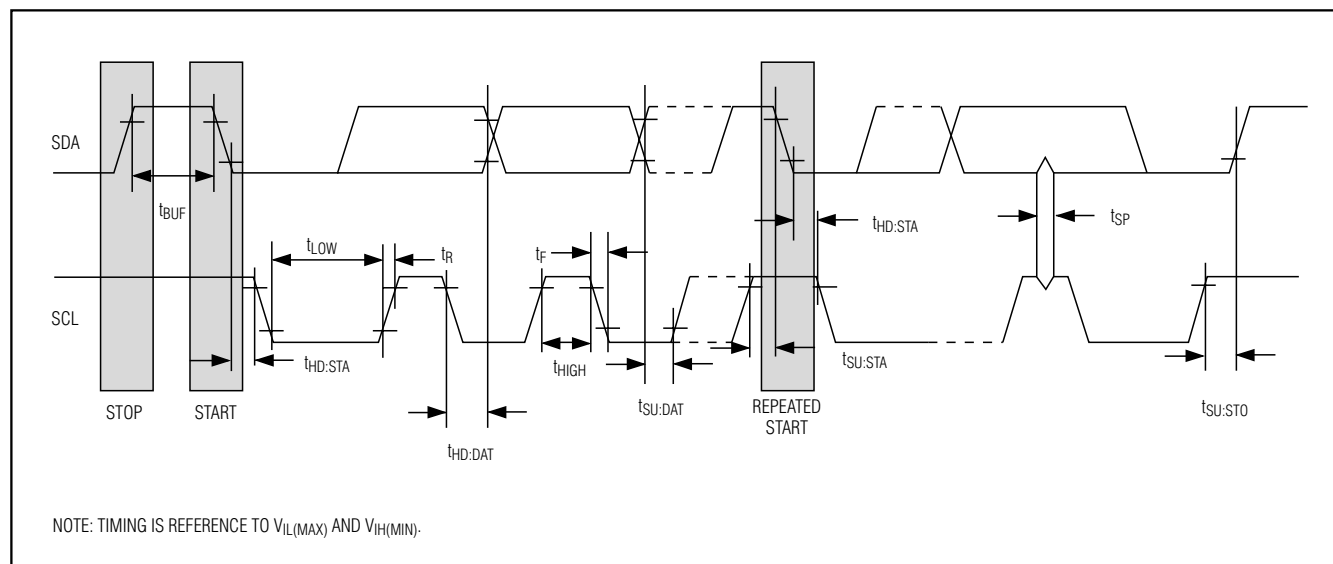

Figure 14. I2C Timing Diagram
**Bit Write:** Transitions of SDA must occur during the low state of SCL. The data on SDA must remain valid and unchanged during the entire high pulse of SCL plus the setup and hold time requirements (Figure 14). Data is shifted into the device during the rising edge of the SCL.
**Bit Read:** At the end of a write operation, the master must release the SDA bus line for the proper amount of setup time (Figure 14) before the next rising edge of SCL during a bit read. The device shifts out each bit of data on SDA at the falling edge of the previous SCL pulse and the data bit is valid at the rising edge of the current SCL pulse. Remember that the master generates all SCL clock pulses including when it is reading bits from the slave.
**Acknowledgement (ACK and NACK):** An Acknowledgement (ACK) or Not Acknowledge (NACK) is always the 9th bit transmitted during a byte transfer. The device receiving data (the master during a read or the slave during a write operation) performs an ACK by transmitting a zero during the 9th bit. A device performs a NACK by transmitting a one during the 9th bit. Timing (Figure 14) for the ACK and NACK is identical to all other bit writes. An ACK is the acknowledgment that the device is properly receiving data. A NACK is used to terminate a read sequence or as an indication that the device is not receiving data.